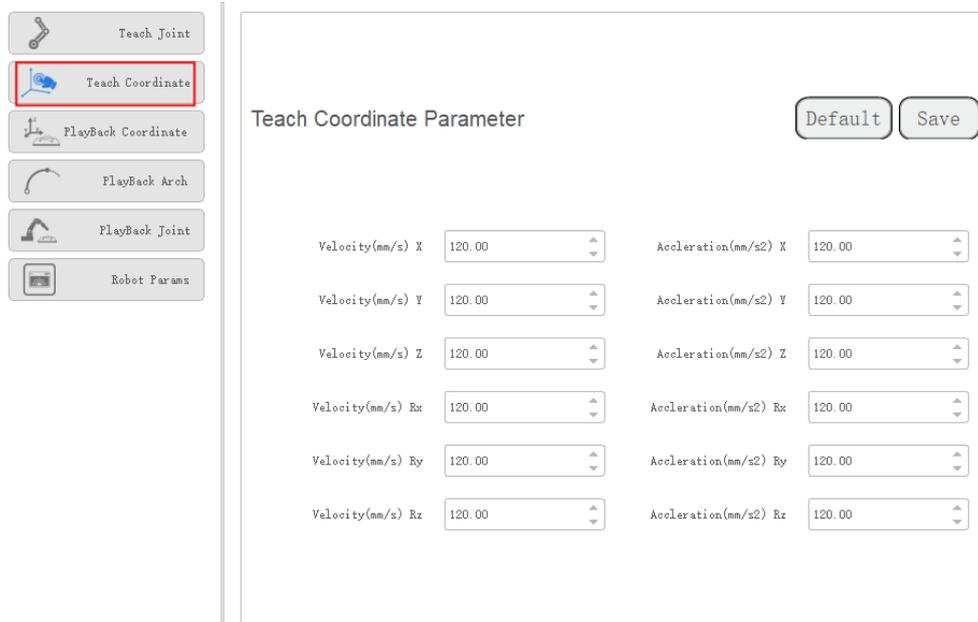

Figure 3.15 Jogging parameters in the Cartesian coordinate system
- Set the maximum velocity and acceleration in the Cartesian coordinate system when jogging a robot. The jogging parameters of a SR robot in the Cartesian coordinate system are as shown in Figure 3.15.